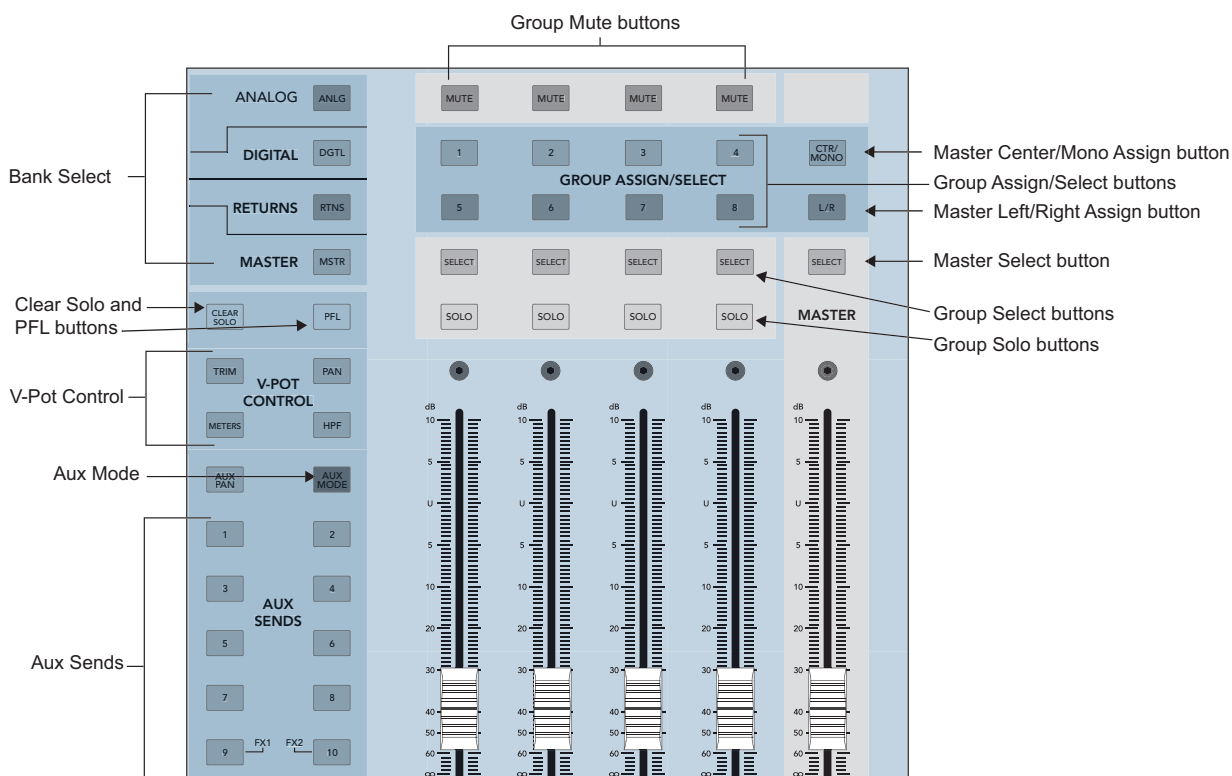

Figure 3-3 Aux, Group, and Master areas
9. Press and hold the **L/R** button in the GROUP ASSIGN area (Figure 3-3) and activate channel 1's **SELECT** button.
13. Press **AUX SENDS 1** in the V-POT CONTROL area (Figure 3-3).
5. Press the **PAN** button in the V-POT CONTROL area (Figure 3-3).